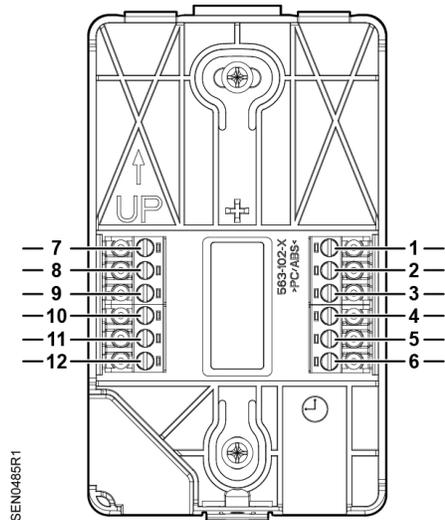

Figure 6. Typical Wiring Base.
When applying the adhesive-backed gasket to the back of the Sensor Base, orient the gasket so that the cut-out arrow portion of the gasket is in the upper left-hand quadrant of the Sensor Base. The Sensor Base has an **UP** arrow molded into the surface in the same quadrant location (see Figure 6).
7. Terminate the wires to the termination blocks on the room unit's base plate. (See Figure 6.)